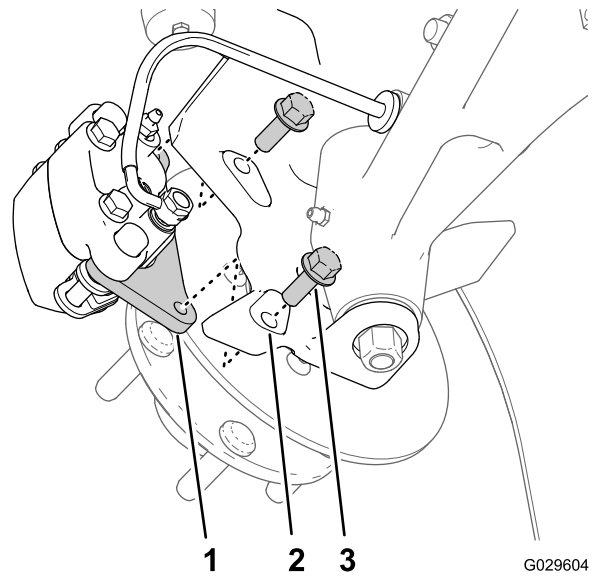

Figure 31
3. Remove the flange-head bolts (3/8 x 1 inch) that secure the bracket for the brake assembly to the spindle and separate the brake from the spindle (Figure 31).
2. Align the brake pads to either side of the rotor (Figure 31) and the holes in the caliper bracket with the holes in the brake mount of the spindle frame (Figure 35).
3. Assemble caliper bracket to the spindle frame (Figure 31) with the 2 flange-head bolts (3/8 x 1 inch), and torque the bolts 47 to 54 N-cm (35 to 40 ft-lb).